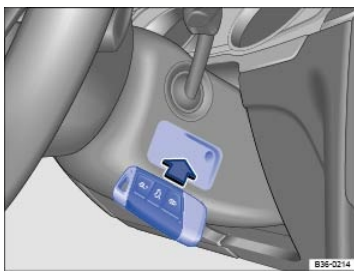

Fig. 108 Hold the remote control vehicle key to the right of the steering column: Emergency starting feature.
- Hold the remote control vehicle key to the right of the steering column trim immediately after pressing the starter button ⇒ Fig. 108.